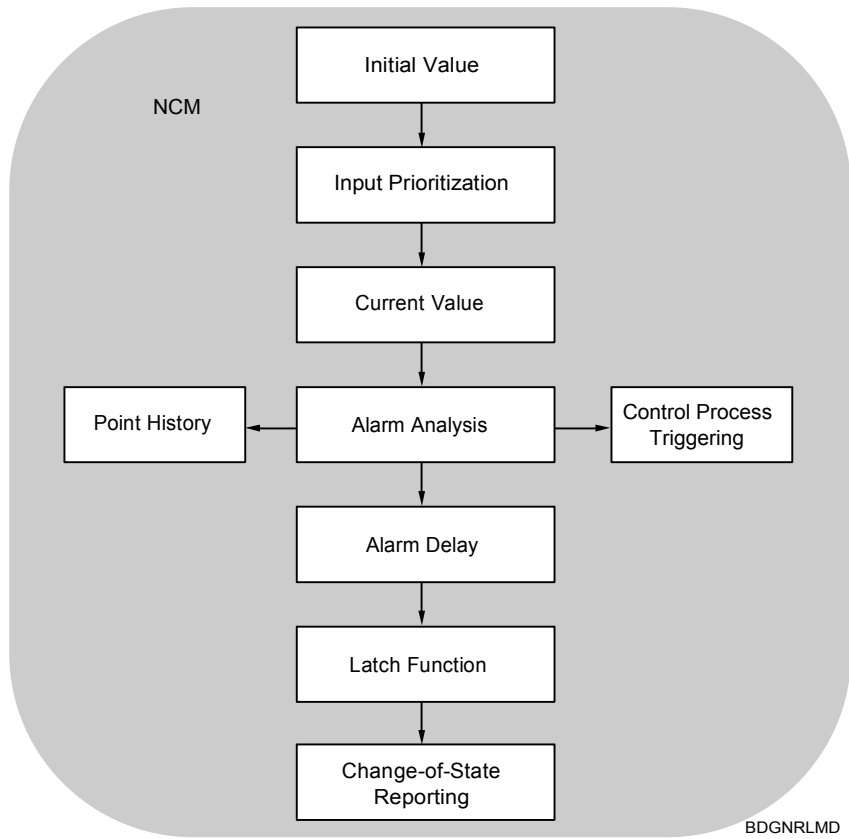

Figure 13: BD General Model
Figure 13 shows a general model of how the BD object operates. For more information, see the *Metasys Network Technical Manual, Software Data Sheets, Binary Data (BD) Object Technical Bulletin*.